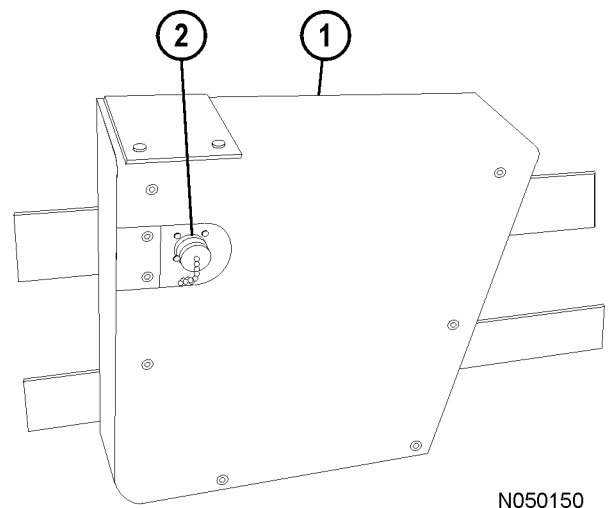

FIGURE 3-5. PAYLOAD METER
This 3-pin connector (14, Figure 3-5) is for use by qualified personnel to access engine diagnostic information for the CENSE system. Refer to engine manufacturer's service publications for troubleshooting information.
This connector (15, Figure 3-5) location is used if the optional Modular Mining System is installed on the truck.
This button (19, Figure 3-5) is for use by qualified maintenance personnel to record in memory a "snapshot" of the Statex III drive system.
The Payload Meter (1, Figure 3-5) and Download Connector (2) are used to provide management with operational data such as tonnage hauled and cycle times.
This connector (2, Figure 3-5) is used with a special cable to allow the Payload Meter (1) to communicate with a Portable Computer.